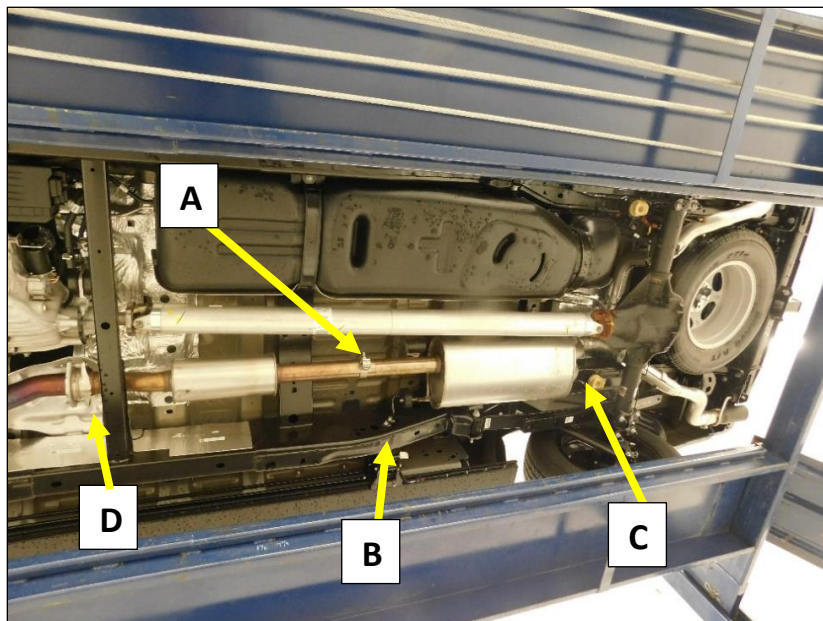

Figure 5
- Loosen the clamp at the slip joint between the muffler and the resonator (**A**). **Fig. 5**
- Remove the (x2) bolts at the muffler hanger on the frame rail (**B**). **Fig. 5**
- Remove the bolt from the muffler hanger over the muffler and remove the hanger from the cross brace (**C**). **Fig. 5**
- Remove the bolts from the flange at the resonator inlet pipe and remove the resonator (**D**). **Fig. 5**
2. Install the muffler hanger (B) **Fig. 5/7** on the frame rail in the same location it was removed.